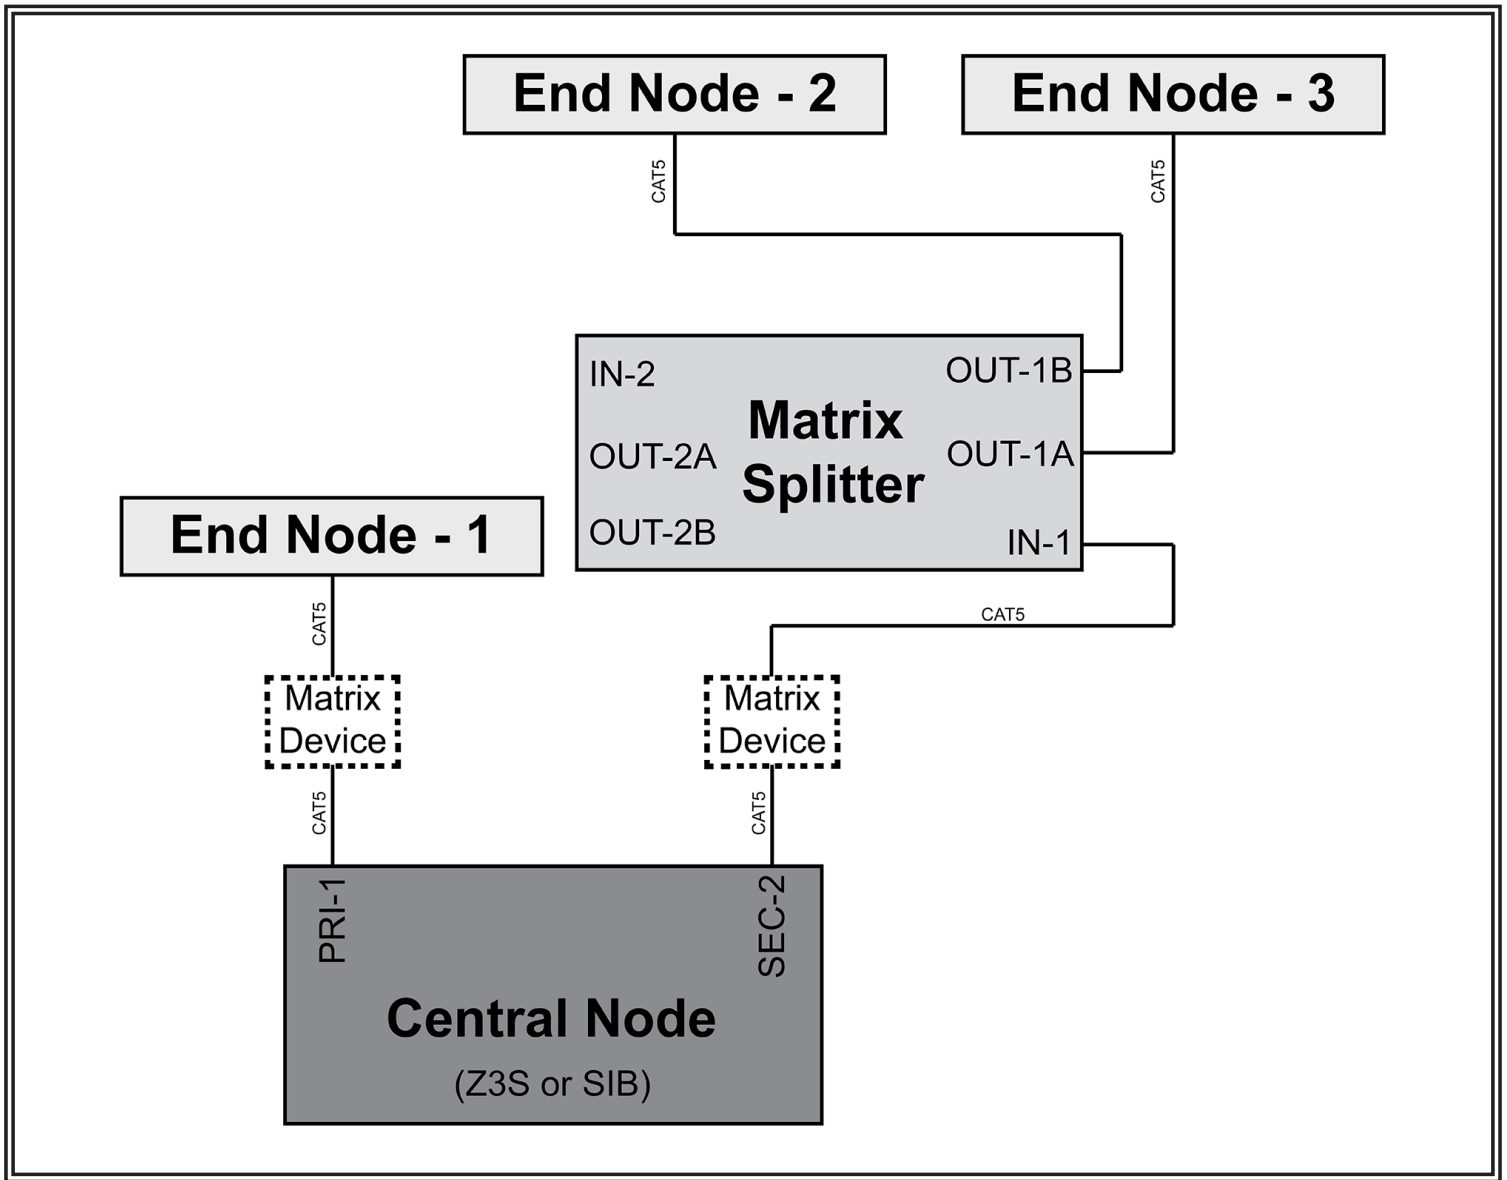
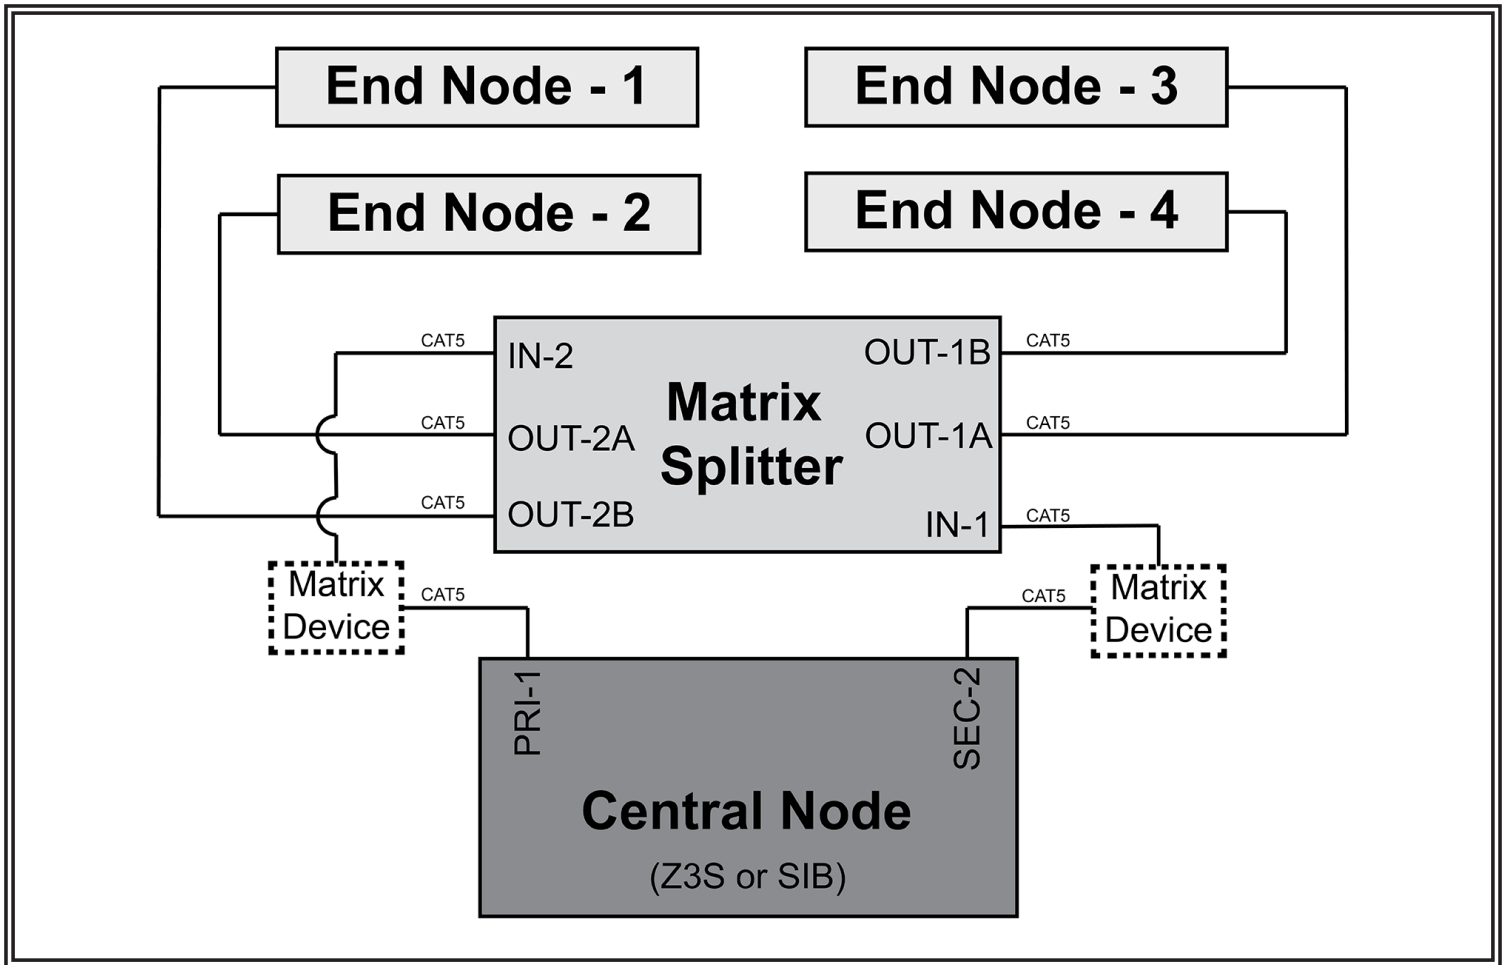
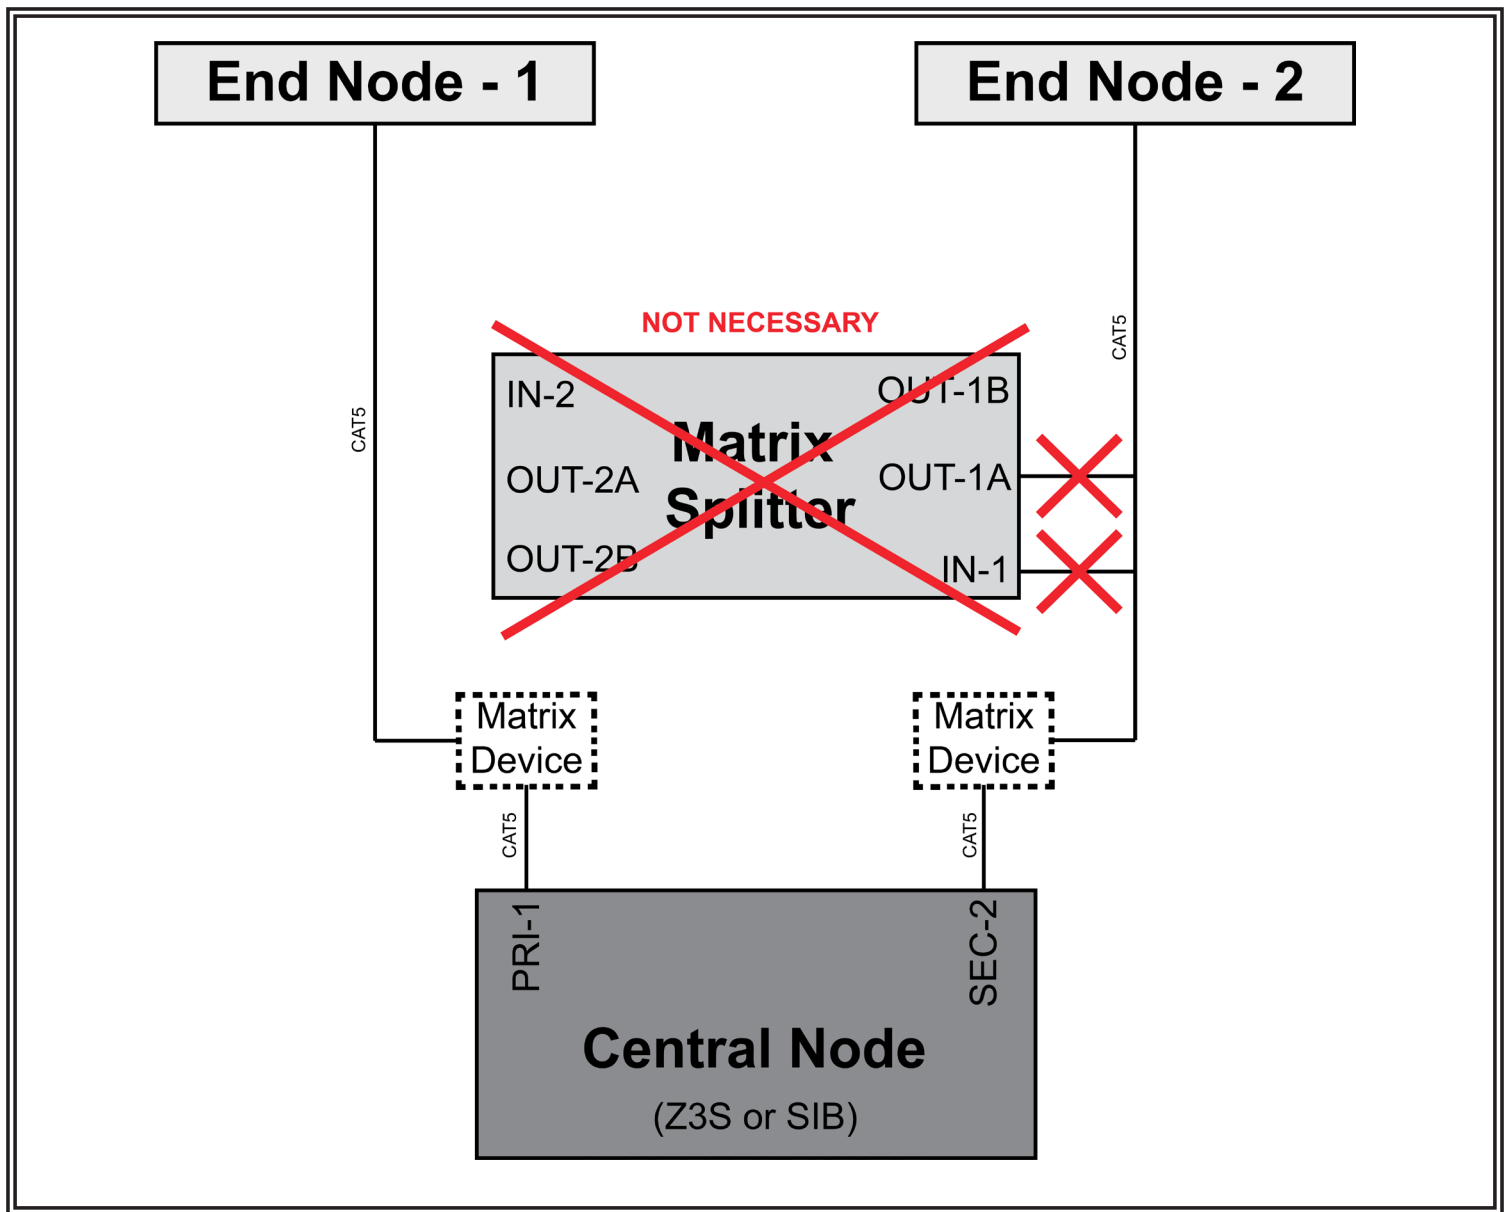

Figure 2
Figure 3
Figure 4
If a system requires more than (2) End Nodes, a Matrix Splitter can be used. The Matrix Splitter will allow (2) End Nodes to be connected to (1) CAT5 jack on the Central Node. Please note that the splitter must always be placed after any future “daisy chain” compatible nodes in line. See Figure 2 and Figure 3. Also, please note that the splitter does not support using only one output of an output pair. If an input is used, both outputs must have End Nodes connected. See Figure 4.